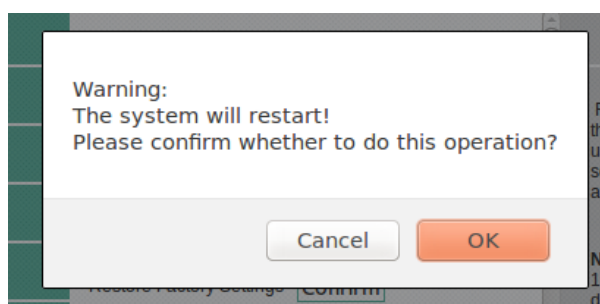

Figure 3-26 Warning message for device restart
- Device restart: This function is applicable to software restart of the CAN converter. Before the CAN converter is completely restarted, the device will not function and cannot forward any data packets. This restart is different from the hardware reset of power-on restart, only the CAN converter system software reset, just like the "hot start" of the Windows operating system. The most significant benefit of this feature is that it provides a remote restart function for the CAN converter, which can be remotely restarted as long as the CAN converter can be remotely accessed. Click the "OK" button, and a prompt box will pop up, as shown in Figure 3-26. Click "OK" to jump to the screen and wait for the progress bar in the screen to be read. After that, the CAN converter will restart and complete.